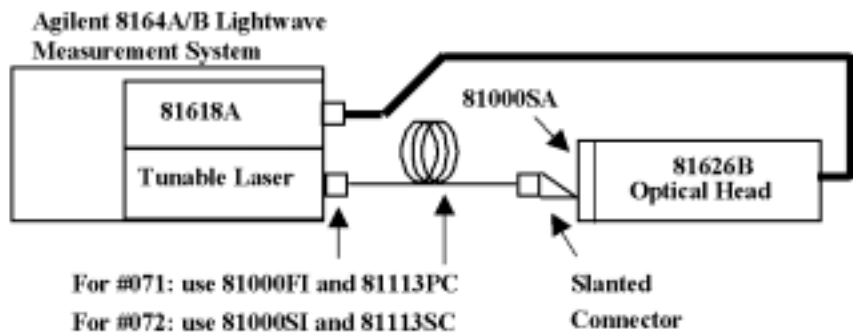

Figure 25 Test Setup for Power Linearity Tests
- 1 Set up the equipment as shown in Figure 25: